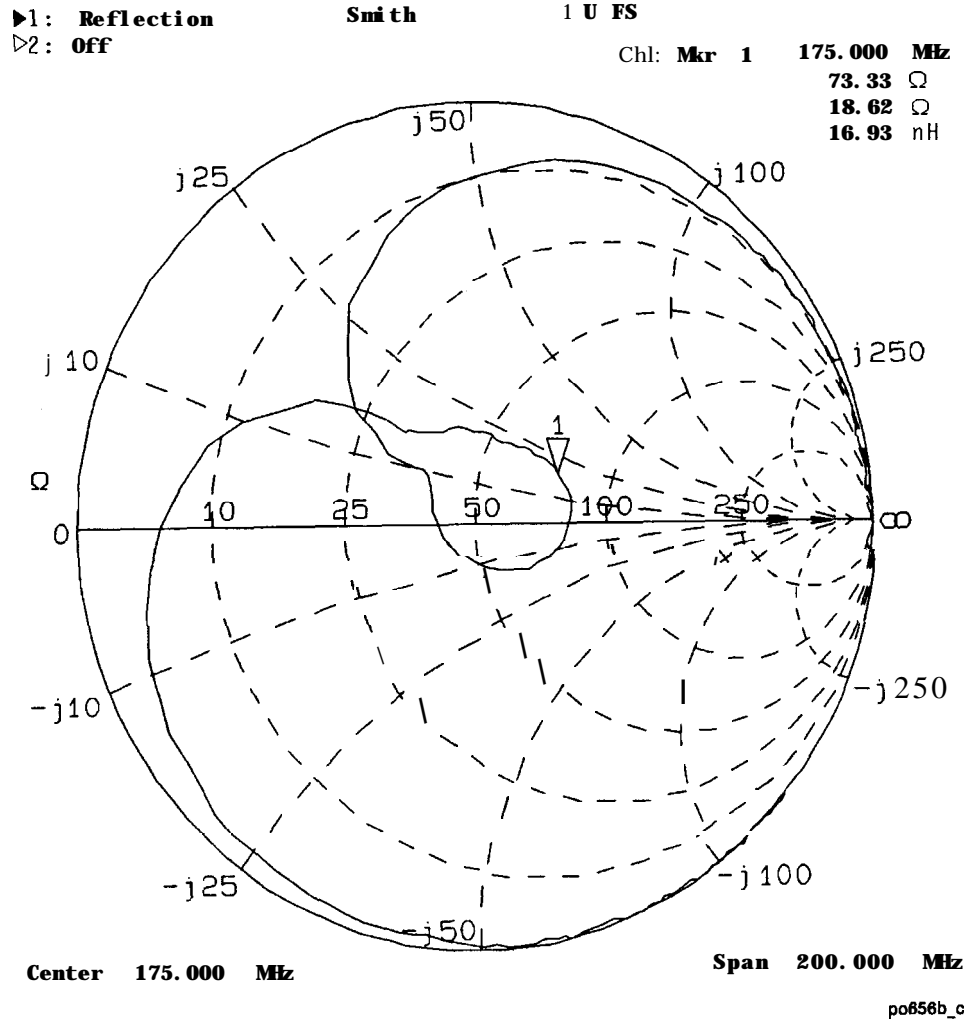

Figure 3.25. Example of an Impedance Measurement
4. Figure 3-25 on the next page, shows an example of an actual measurement. Note the marker readout in the upper right corner of the display. The marker values are frequency, resistance, reactance, and the equivalent capacitance or inductance, respectively.